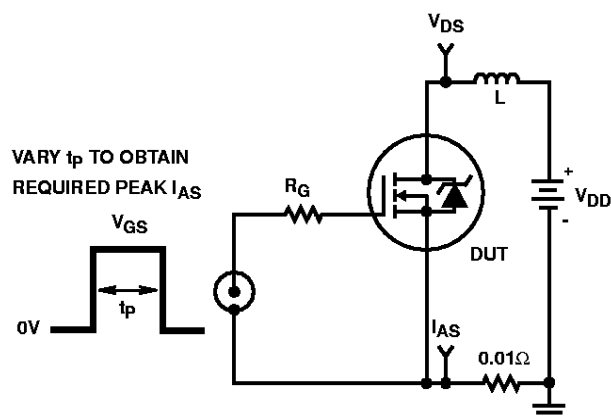

FIGURE 15. UNCLAMPED ENERGY TEST CIRCUIT
- $V_{DD} = 25\text{V}$, starting $T_J = 25^\circ\text{C}$, $L = 160\mu\text{H}$, $R_G = 50\Omega$, peak $I_{AS} = 31\text{A}$. (Figures 15, 16).